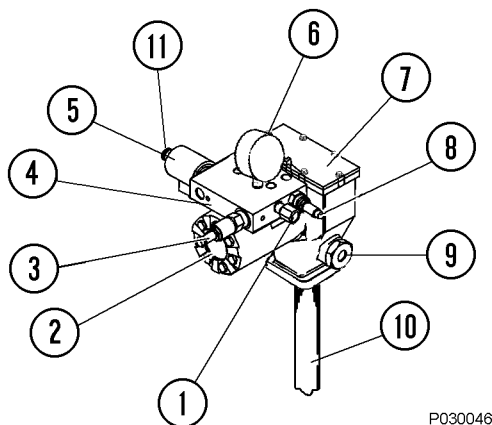

FIGURE 3-1. PUMP COMPONENTS
Grease output is proportional to the hydraulic motor input flow. A pump control manifold (4, Figure 3-1), mounted on top of the hydraulic motor (2), controls input flow and pressure. A 24VDC Solenoid (5) mounted on the manifold turns the pump on and off.
Hydraulic Motor and Pump (2 & 7, Figure 3-1)
Pressure Reducing Valve (3, Figure 3-1)
Flow Control Valve (8, Figure 3-1)
Solenoid Valve (5, Figure 3-1)
The lube cycle timer provides a 24 VDC timed-interval signal to operate the solenoid valve (5, Figure 3-1), causing the grease pump motor to operate. This timer is mounted in the cab (in the housing under the passenger seat) to insure temperature stability.
Pressure Gauge (6, Figure 3-1)
Manual Override (11, Figure 3-1)